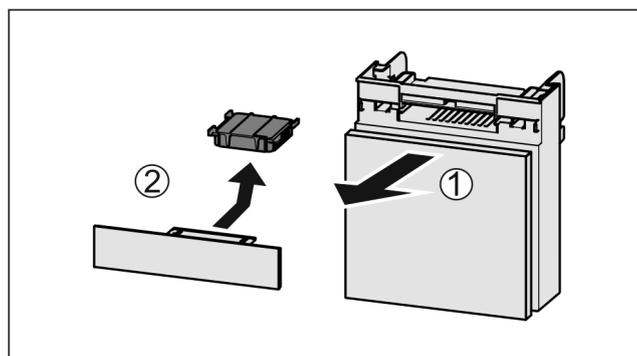

Fig. 52
- ▶ Pull out the compartment Fig. 52 (1).
- ▶ Remove the carbon filter *Fig. 52 (2)*.